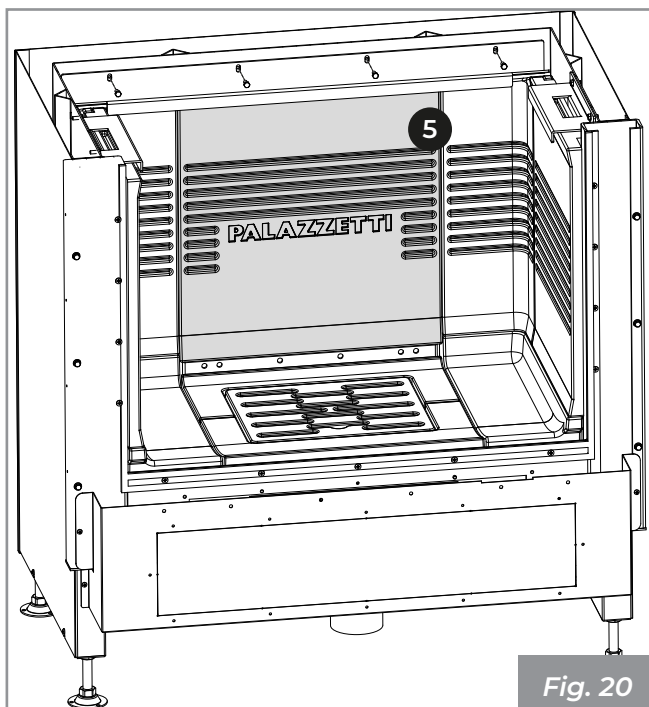

Fig. 20
5) Position the refractory backrest (5) by fixing it with the bracket and the appropriate screws (Fig. 20).